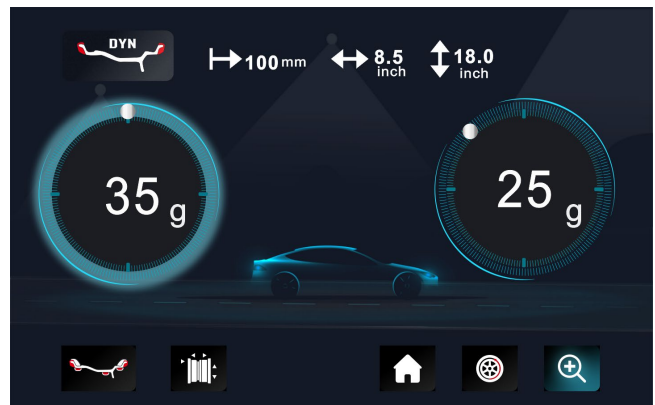

Fig.4
4.1.7. Press , until the left LED lit up full, clip weight on 12 o'clock position (Fig.4)